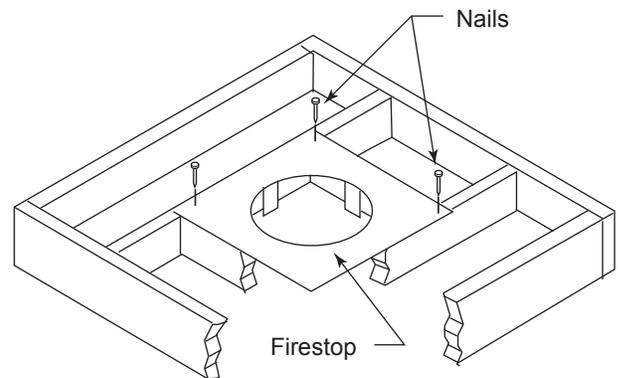
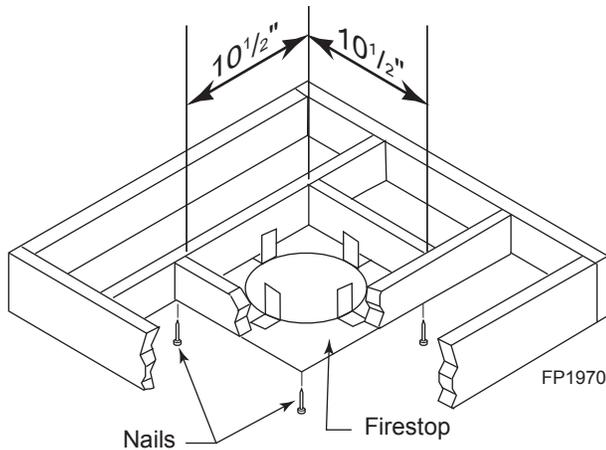

Figure 25 - If Area Above is a Room, Install Firestop above Framed Hole as Shown
Figure 26 - If Area Above is Not a Room, Install Firestop above Framed Hole as Shown
1. Cut a 10¹/₂" (241 mm) square hole in the ceiling using the locating hole as a center point. The opening should be framed to 10¹/₂"x10¹/₂" (241 x 241 mm) inside dimensions as shown in Figure 26 using framing lumber the same size as the ceiling joist. If the area above the ceiling is an insulated ceiling or a room, nail firestop from the top side. This prevents loose insulation from falling into the required clearance space. Figure 25. Otherwise, install firestop below the framed hole. Figure 26